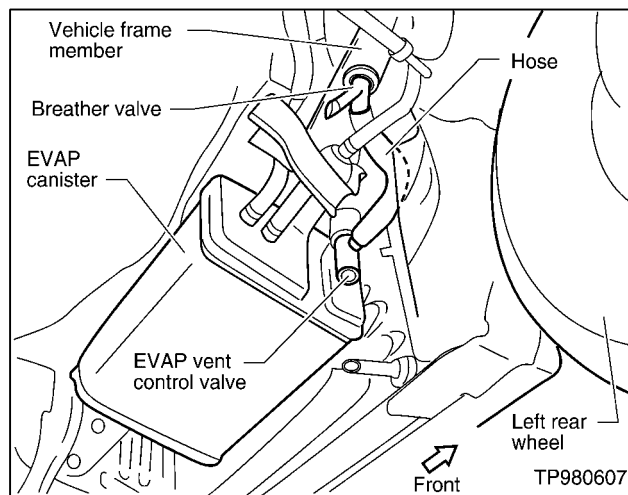

Figure 6
- B. Remove and discard the breather valve and hose (see Figure 6).